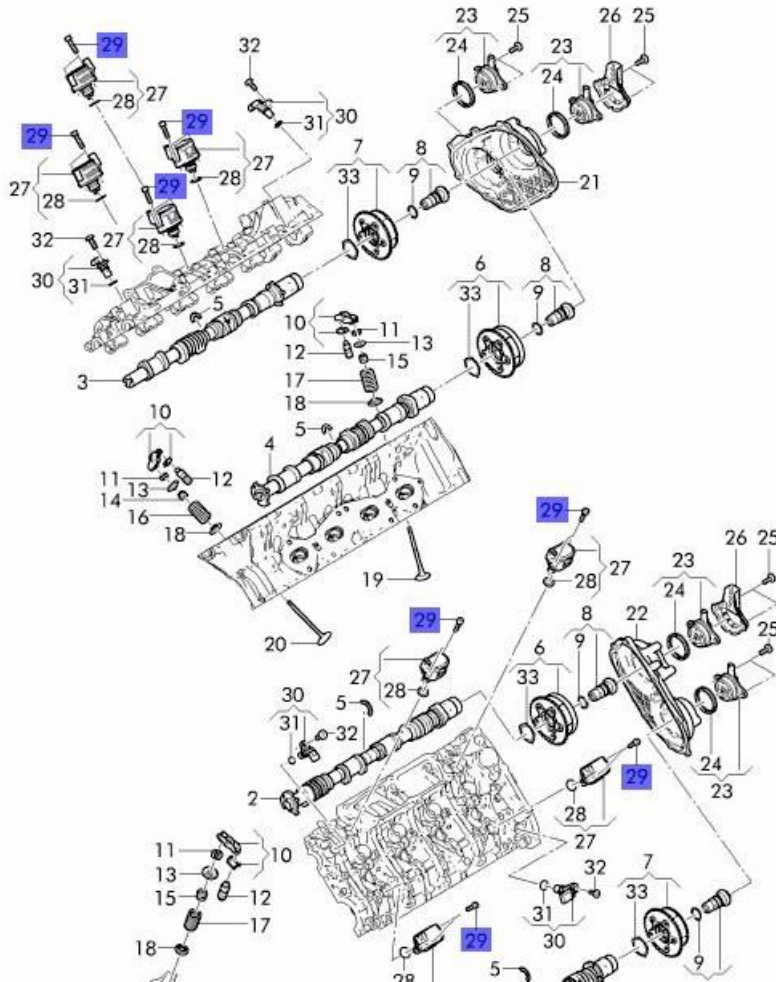

Figure 1
- CDA activation/ deactivation solenoid fixings - Figure 1 (Item 29 - Quantity of 16 in total)